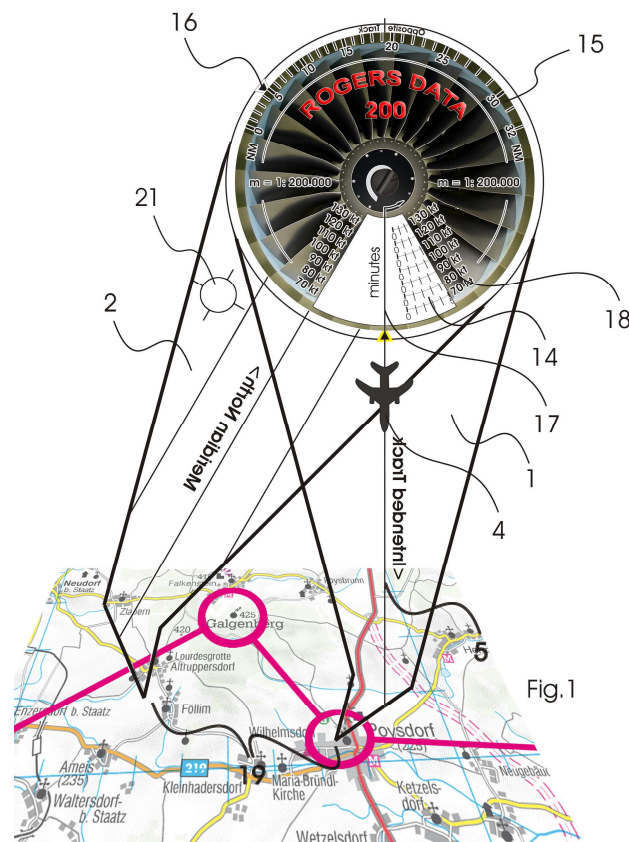

Fig. 1
In order to read the distance between two points on a sectional chart, the scale (15) at the top of the front side (Fig. 1) of the RogersData© Navigationcircle must be used. On the scale (15) below the mark (16) the distances in NM (nautical miles) picked up with the tips (19) of the two legs of the Navigationcircle can be read. Conversely, distances on the Navigationcircle can be set and transmitted into a sectional chart by means of the tips (19).
When speed and distance are known the time needed for this distance can be derived by using the scales on the front side (Fig. 1) of the Navigationcircle. In addition, when speed and time elapsed are known the exact position on the sectional chart as well as the time remaining can be determined.